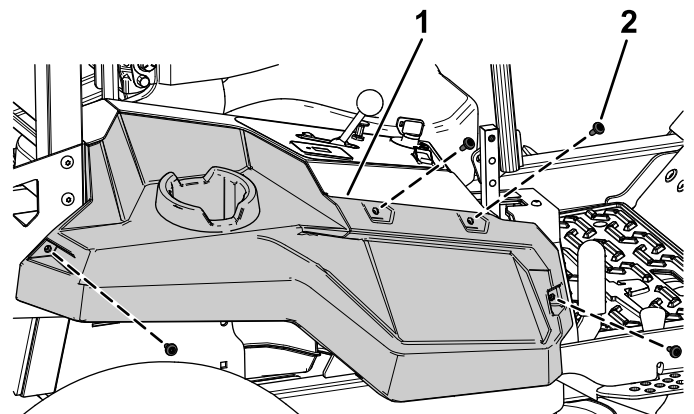

Figure 4
1. Remove the 4 shoulder screws securing the right side pod (Figure 4).
2. Remove the right side pod (Figure 4).
Secure the right side pod using the previously removed 4 shoulder screws (Figure 4).